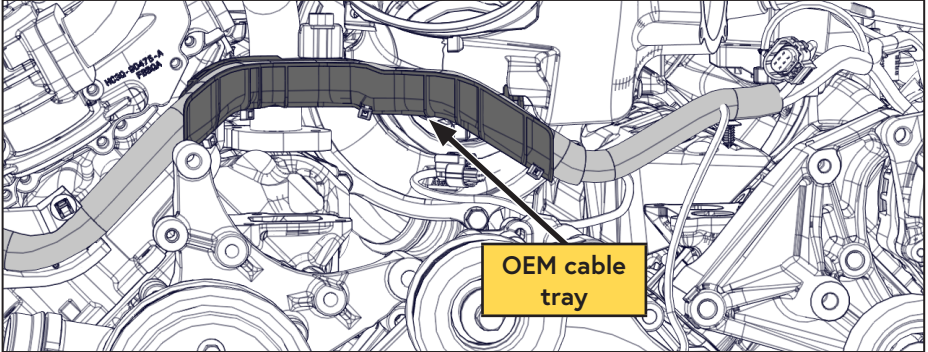

Figure 8 — OEM wiring tray
- Remove the cable tray. Retain the cable tray and bolt as they will be reused (Figure 8).